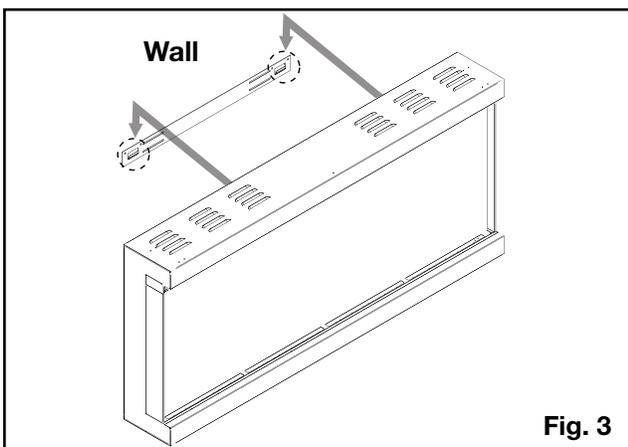

Fig. 3
5. With the wall-mounting bracket installed, have two people lift the appliance up and insert the hooks on the bracket into the slots on the back of the appliance (**Fig. 3**).